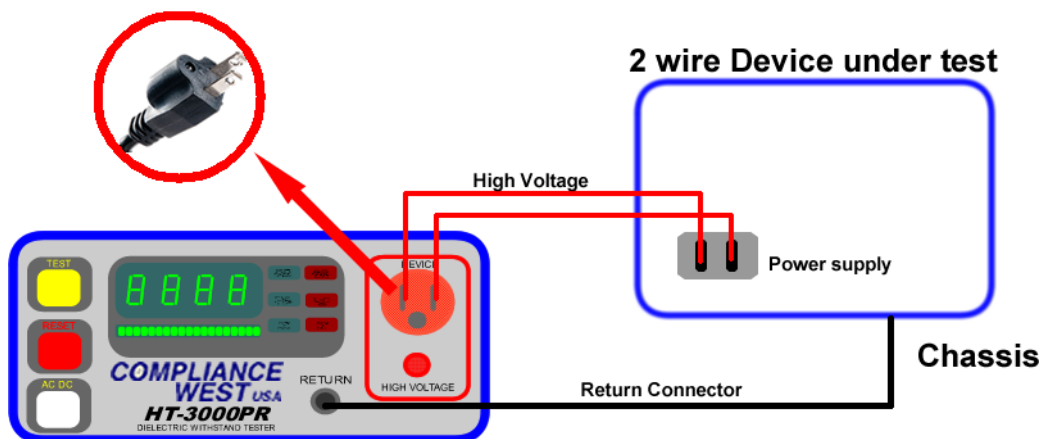

Figure 6. Testing a Two Wire Power Cord Device
4. Plug the power supply cord of the device being tested into the **Device** receptacle on the front panel of the HT-PR unit. See figure 6 for detailed connections.